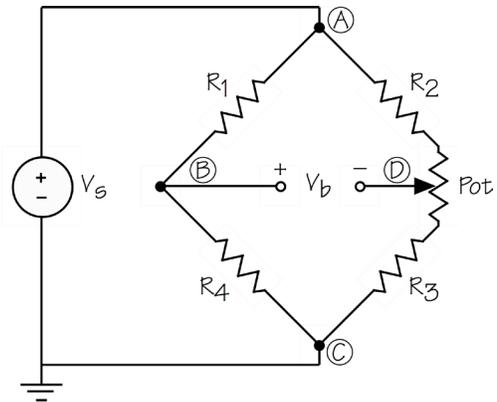
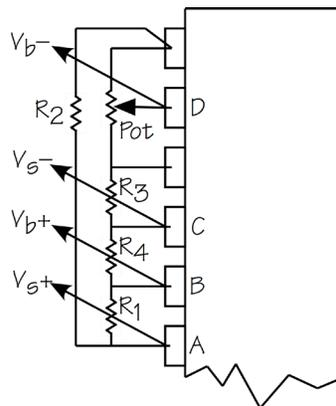

Fig. 2—Strain gauge bridge
Fig. 3—Bridge connections
2. The bridge circuit (Fig. 2) is already built onto the beam (Fig. 3). You will connect to  $V_s$  and  $V_b$  only.